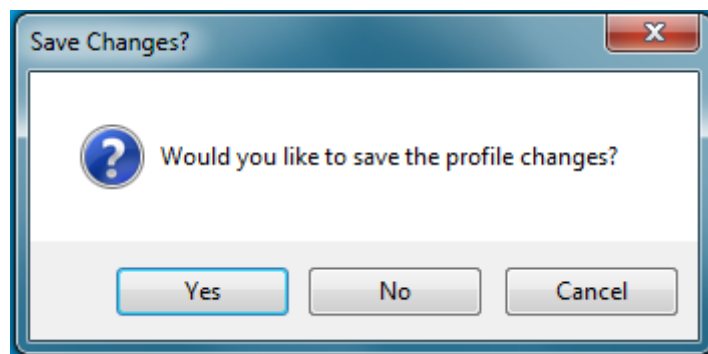

Figure 5.1: This window appears if changes to a previously open test profile were not saved.
- If any changes have been made to the currently opened test profile, you will be asked if you wish to save the changes (see Fig. 5.1).